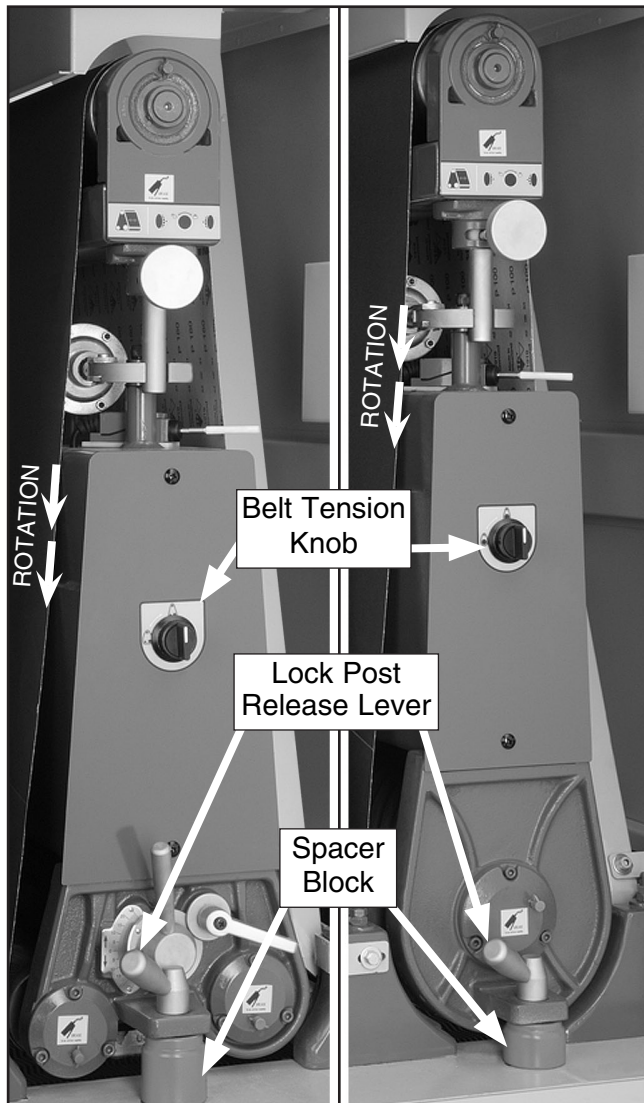

Figure 13. Components used when changing a sanding belt on single drum or platen-style wide belt sanders.
2. De-activate the belt tension piston by turning the belt tension knob (**Figure 13**).
3. Remove the lock post release lever (**Figure 13**) by turning it counterclockwise $\frac{1}{2}$ turn and pulling it up and out of the mounting hole.
4. Remove the spacer block (**Figure 13**).
5. Making sure the rotation arrows on the sanding belt point the same direction as those shown in **Figure 13**, install the sanding belt by starting first on the upper roller, and then the lower roller.